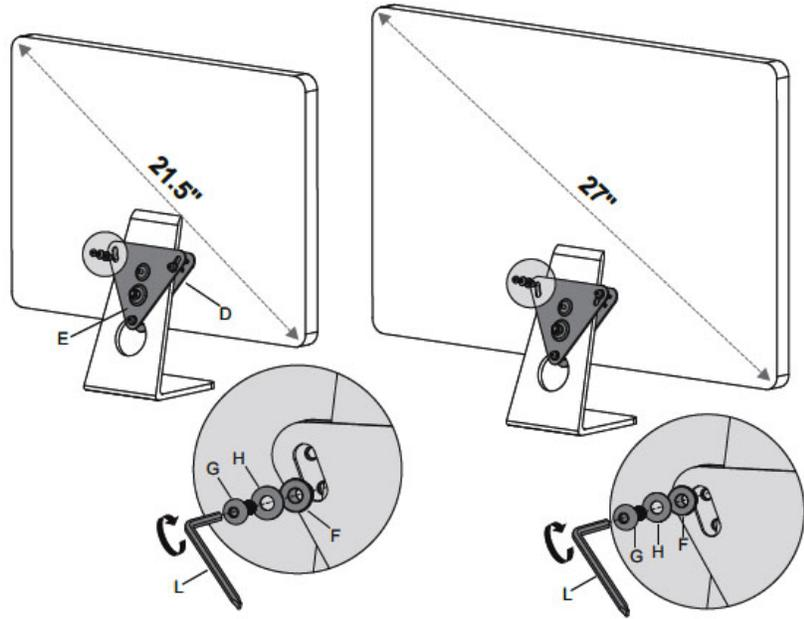

Figure 10
4. Mount the Front and Rear Mounting Plate (D & E) onto the iMac's desk stand, use Spacer (F), Washer (H) and Bolt (G) and tighten them using the 3mm Allen Key (L), see Figure 10.